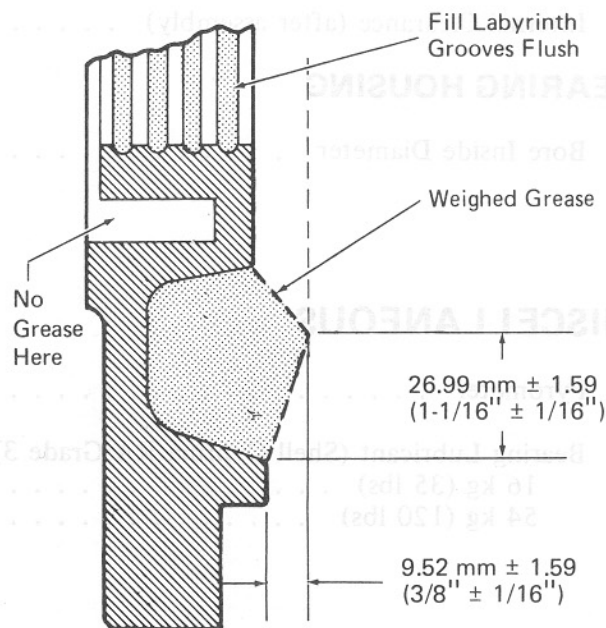

Fig. 11 - Application Of Grease To Bearing Cap And Cover 22597
c. Form grease to proper contour, Fig. 11.